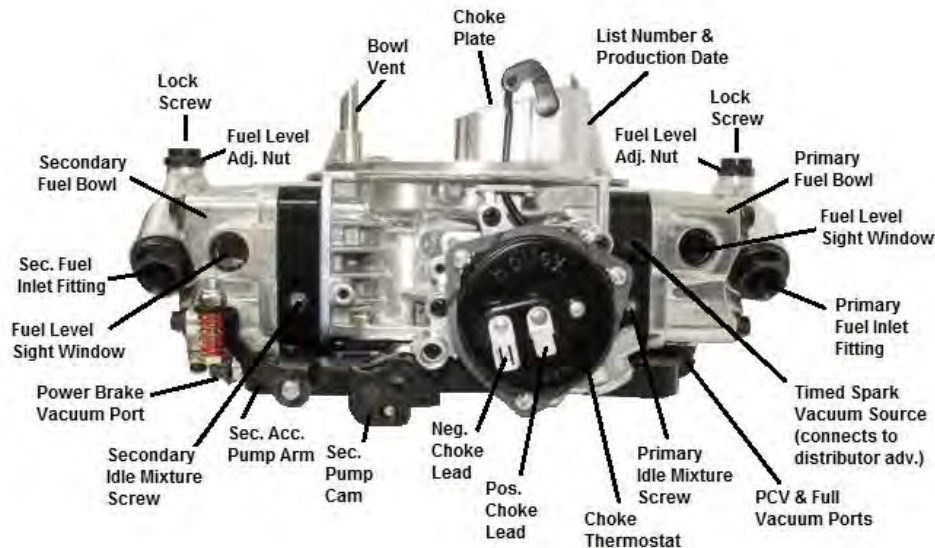

Figure 6
6. Reconnect the appropriate vacuum hoses to the carburetor, noting the correct fitting from **Figure 6 and 8**.
8. Connect the power brake hose to the fitting as shown in **Figure 6**.